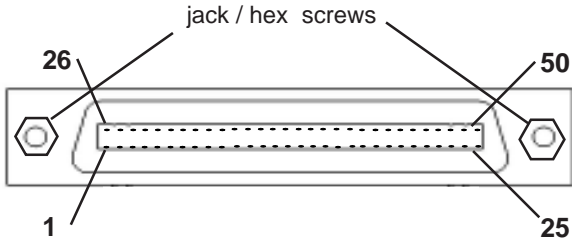
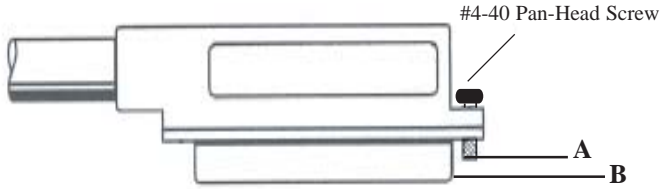

Figure 1: Rear panel female connector
Figure 2: Male cable head
Note 2: All 50 pin female connectors on the rear of the shelf have the same orientation. See **Figure 1**.
Note 3: The #4-40 screw(s) supplied with the cable heads may be too long for the jack-hex screws as shown in **Figure 1**. To verify this extend the screw fully. If it is flush with or goes past the connector's body as shown in **Figure 2** point (B) the screw is too long. Replace the screw so when fully extended the end of the screw is about 1/16 inch (1.5mm) from the bottom of the connector's body as shown in **Figure 2** point (A).